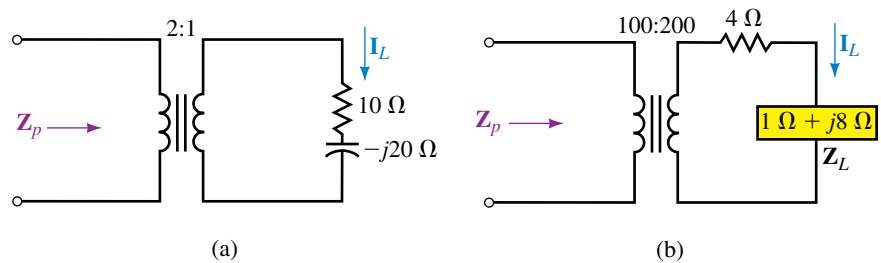

FIGURE 24–72
11. For each circuit of Figure 24–72, determine \mathbf{Z}_p .
12. For each circuit of Figure 24–72, if $\mathbf{E}_g = 120 \text{ V} \angle 40^\circ$ is applied, determine the following, using the reflected impedance of Problem 11.